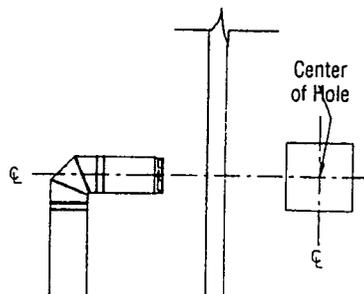

Figure 19
C. With the pipe attached to the appliance, slide the appliance into its correct location, and mark the wall for a 10" x 10" square hole. The center of the square hole should line up with the centerline of the horizontal pipe as shown in Figure 19. Cut and frame the 10" square hole in the exterior wall where the vent will be terminated. Install the Wall Thimble (Dura Vent Part No. 942) into the frame opening. If the wall being penetrated is constructed of noncombustible material, i.e. masonry block or concrete, a 7" diameter hole is acceptable, and the Wall Thimble is not needed.